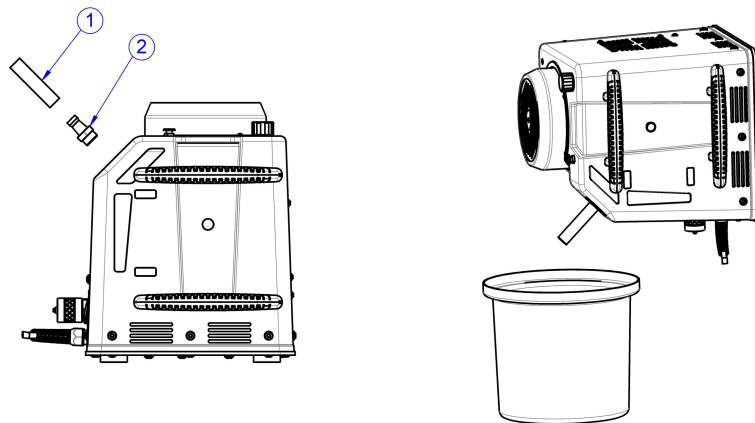

Fig. 6: Oil change
- Remove the screw plug and screw the 1/2" threaded nozzle (fig. 6, 2) with the silicone hose (fig. 6, 1) into the tank opening (included in the scope of supply).